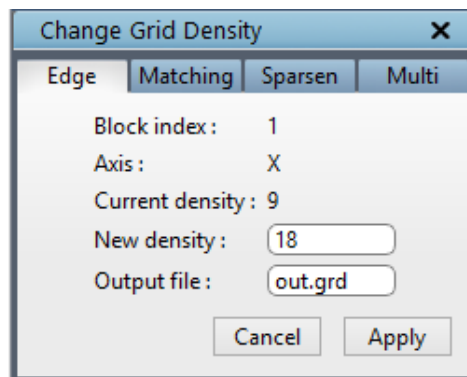

Figure 5.14: Density dialog box
*Density* button has four tabs, each performs different operations as follows. Once you click on the Density button, Change grid Density dialog box opens as shown in figure 5.14. By default the tab is set to *Edge*. The density of a particular edge group can be changed using *Edge* tab. An
edge has to be selected for which the density has to be changed. Enter the new density for the selected edge and click on *Apply* to see the changes. When the *Apply* button is clicked, a new grid file is created with the name specified in the *Output file* input field and automatically loaded into the UI. Once the new grid is loaded, the old grid will be switched off, which can be switched on again from the **Grid Toggling** section. The density of an edge of a block can also be changed by using *Change density* option from right click menu. Selecting *Change density* option from the right click menu of a grid block edge will open the same dialog box as shown in figure 5.14.